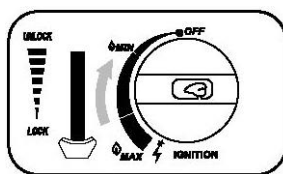

Fig. 3
6. Now set the gas regulator to the required position (fig. 3).